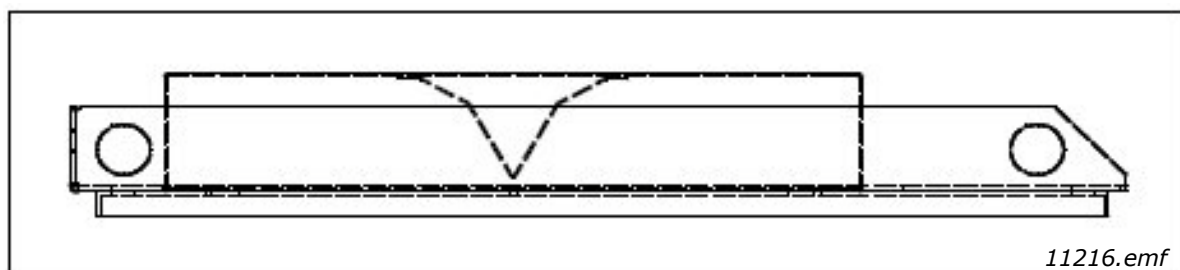

Figure 45. Roof structure seen from the side
**NOTE!** If a flat roof is used, mount a V-shaped air guide on the underside of the roof to direct the air flow horizontally. See Figure 45.